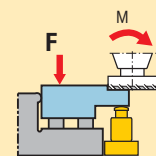

Figure 5c
Figure 5c: Shows how to locate a workpiece correctly. To avoid tilting the workpiece, the torque "M" transferred from the workpiece (5) to the body to be machined (6) must be balanced by an appropriate counter-torque. This counter-torque is created by the clamping force "F."